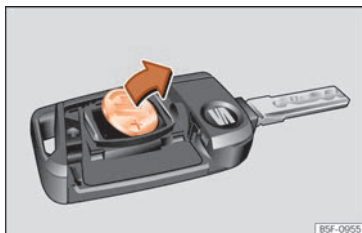

Fig. 75 Vehicle key: removing the battery.
- Extract the battery from the compartment using a suitable thin object »»» Fig. 75.
- Place the new battery in the compartment as shown »»» Fig. 75, pressing in the opposite direction to that shown by the arrow »»» ❷.